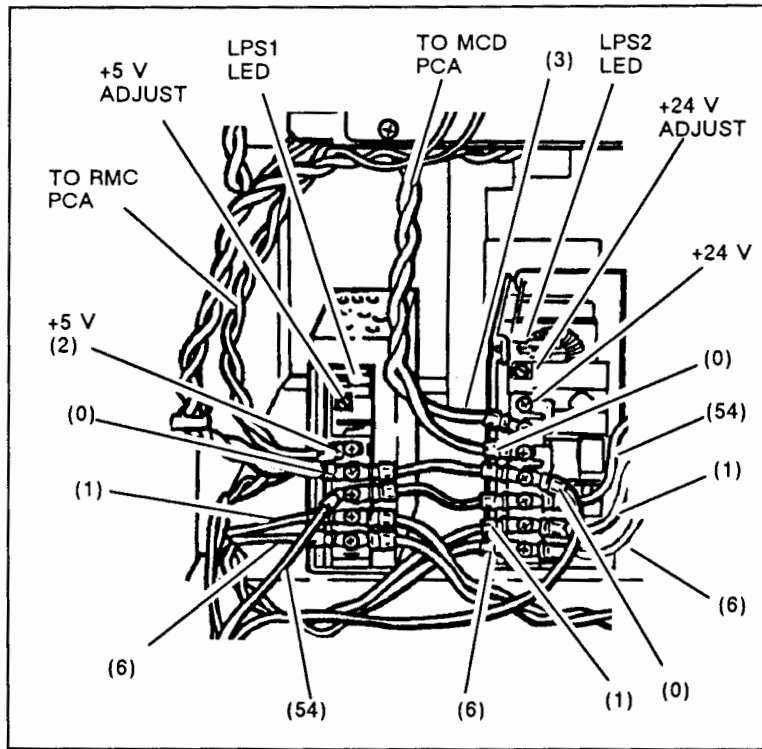

Figure 4-16. Low Voltage Power Supplies
4-12. The plotter power supply consists of three units; LPS1 (+5V), LPS2 (+24V), (See Figure 4-16.), and HPS1, the high voltage power supply. LPS1 is used for logic, LPS2 for mechanical drive, and HPS1 is used to drive the control and pin electrodes on the writing head.
- c. Using the voltmeter, measure the +5V at LPS1. See Figure 4-16. If not within specifications, replace the LPS1.
- LPS2 LED ON (Inside the rear cover). See Figure 4-16.
- b. Check the power supply jumpers for proper location. See Figure 4-16.